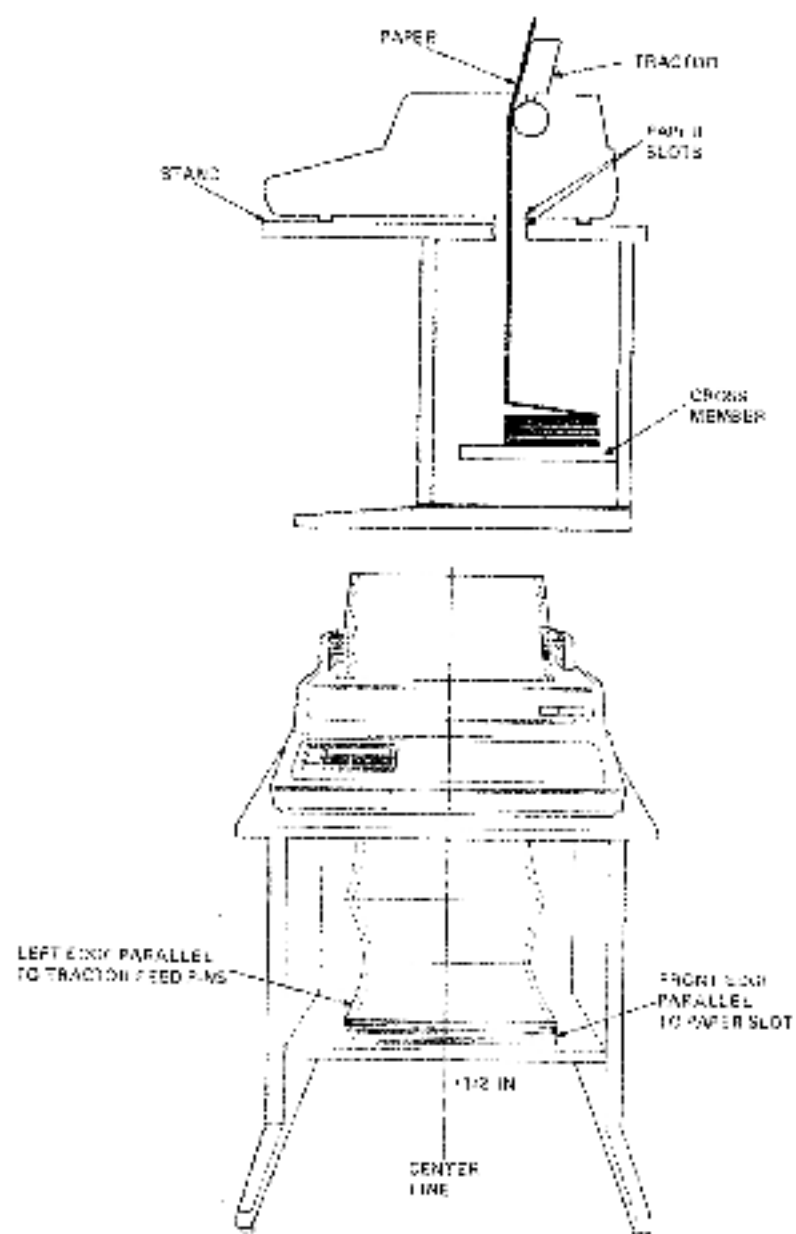

Figure 2-9 Tractor Feed Paper Path
- a. If you use the printer stand, place the paper/forms on the crossmember between the legs of the printer stand (Figure 2-9).
- a. If you are using the printer stand, align the paper parallel to the bottom paper slot and route the paper through the paper slot (Figure 2-9).